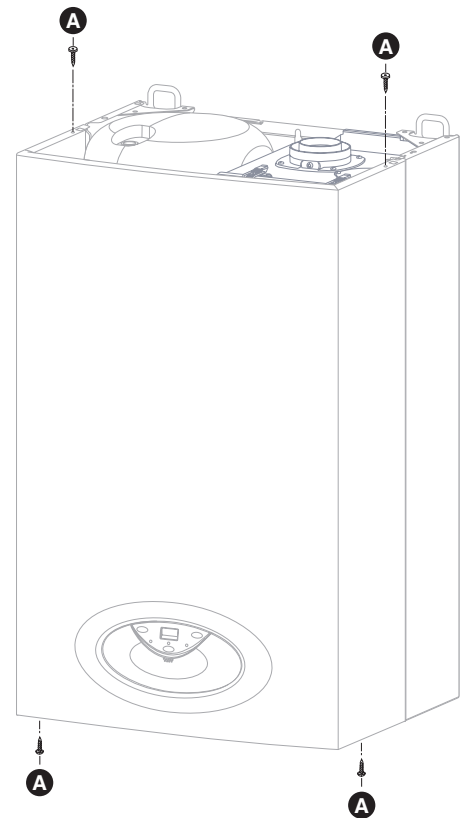

FIG. 15.2
- undo the 4 case retaining screws (Fig. 15.2)